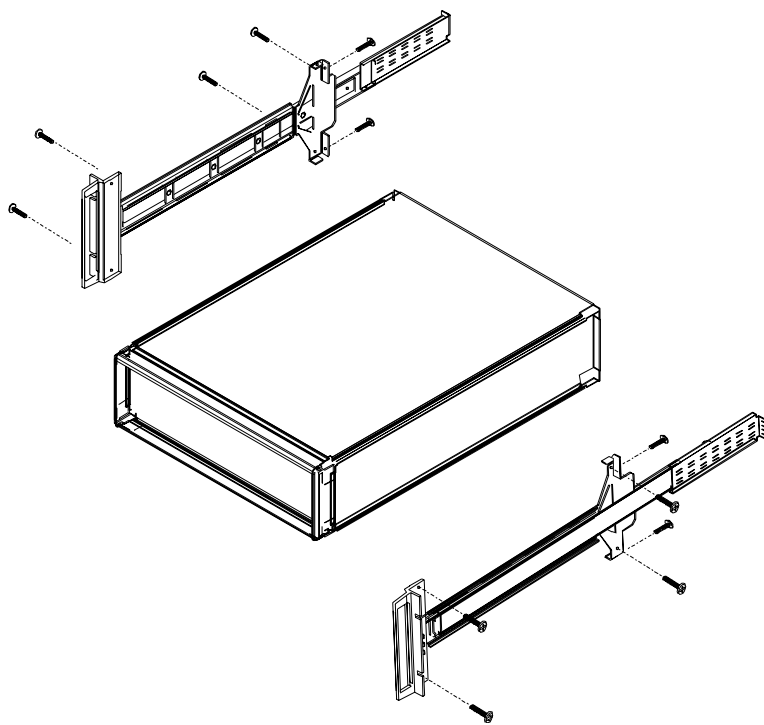

Figure 2-3. Rack Mounting Hardware Installation
- Step 5** Place the left side inner slide assembly onto the instrument case with the handle towards the front of the instrument (Figure 2-3).